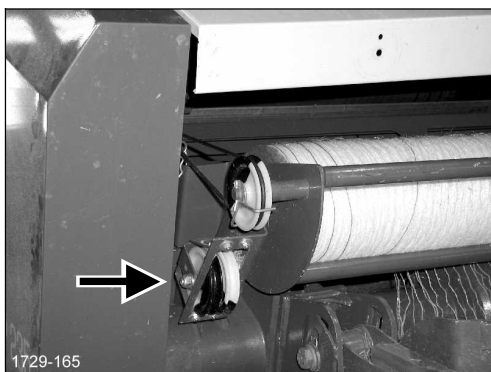

Figure 86
- ❑ Check twine run at the twine guide rollers (Figure 86). Tying is finished as soon as the guide rollers stop.
- ☐ Check twine run at the twine guide rollers (Figure 86). Tying is finished as soon as the guide rollers stop.